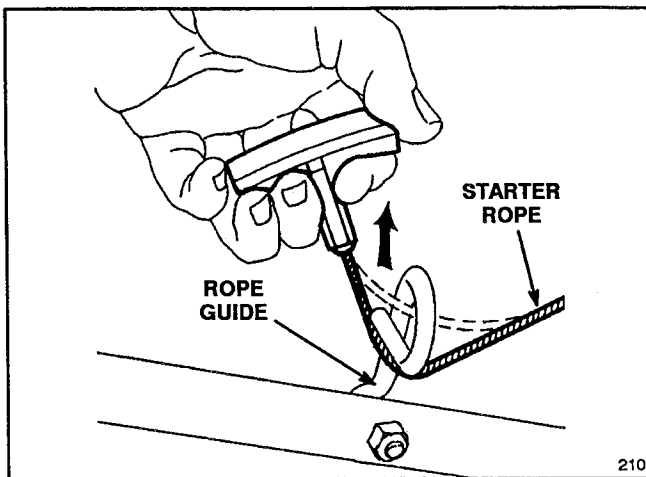

Figure 4
1. Pull the starter rope through the rope guide on the handle (Fig. 4). To make the rope easier to loop, squeeze the control bar on the handle to release the blade brake.